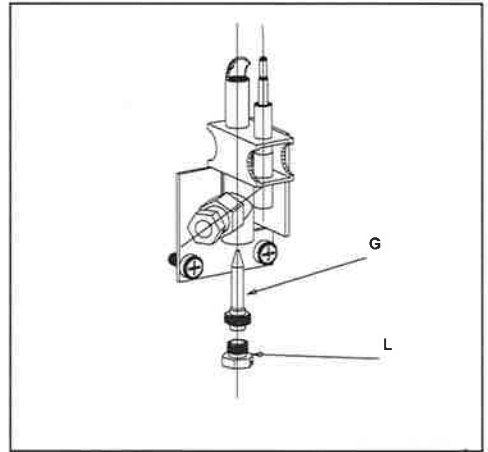

FIG. 4
4.3 RÉGLAGE DU BRÛLEUR VEILLEUSE (FIG. 4)